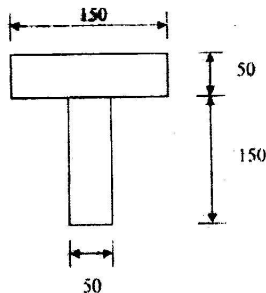

Figure No. 2 (Q. 3)
3. Two wooden planks $150 \text{ mm} \times 50 \text{ mm}$ each are connected to each other to form a T-section of a beam as shown in Figure No. 2. If a moment of 3.4 kN-m is applied around the horizontal neutral axis, find the stresses at the extreme fibers of the cross section. 20